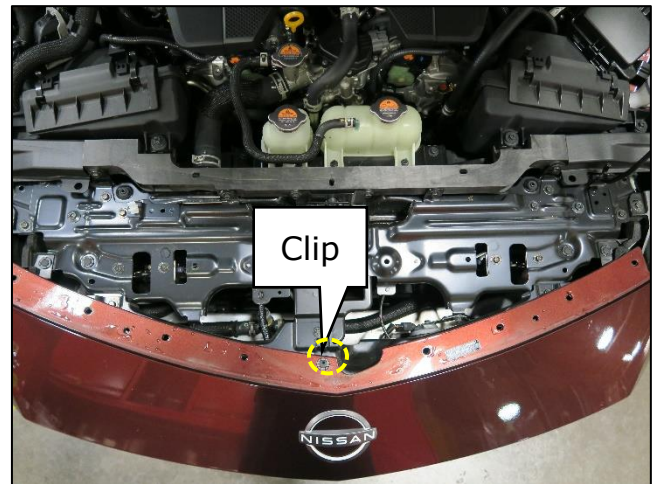

Figure 41
35. Install the locating clip removed in **Step 6**. (Figure 41)